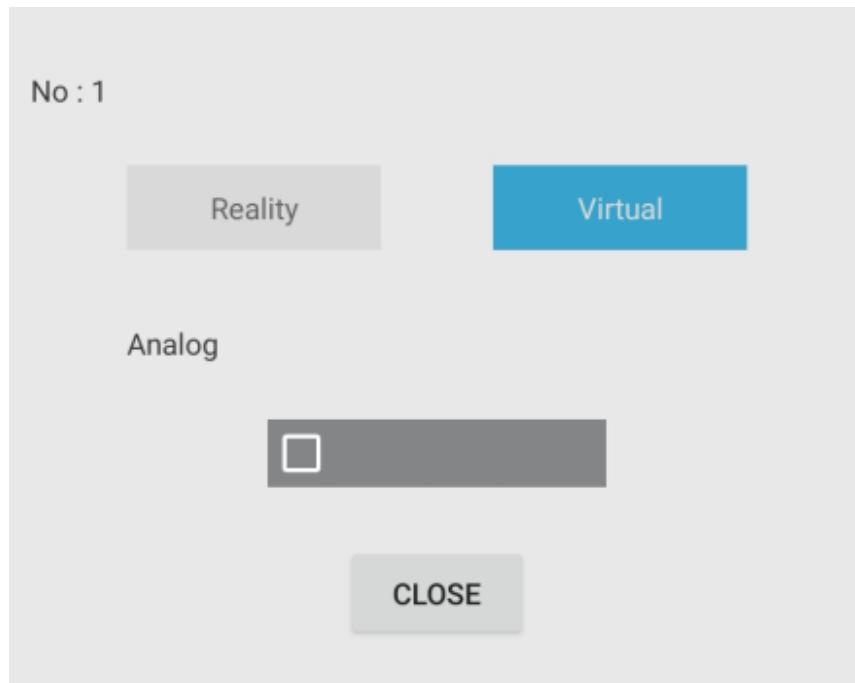

Figure 5.2 Simulation
- Simulation: Simulate the analog input in the manual mode or auto mode for debugging and running program with the operator authority or higher authority, as shown in Figure 5.2.